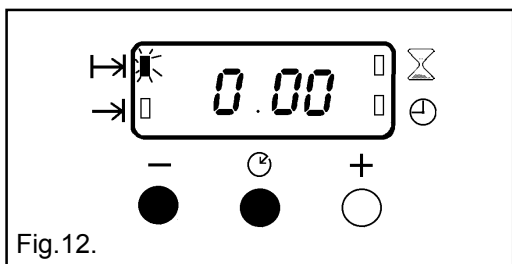

Fig.12.
- i) To cancel an automatic programme press the Selector Control button until the 'Cook Time' indicator neon (T→) neon flashes. Press the decrease control ( - ) until the display reads 0.00 as Fig. 12.